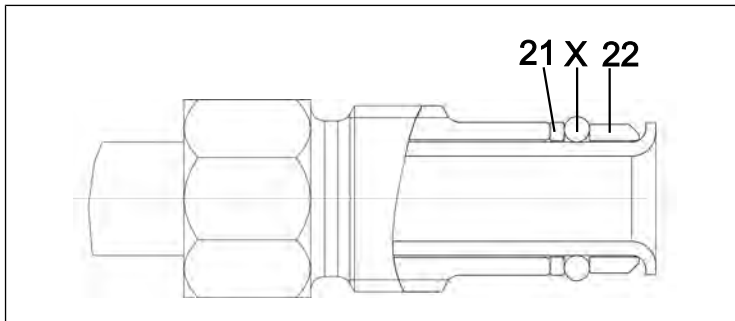

Fig. 31: Correct position of O-ring
2. Change the O-rings (16) and (17) on the separator hose connection (11).
3. Change the O-ring (15) on the high-performance condenser hose connection (12).
**i** When changing the O-rings, make sure that the new O-rings are positioned correctly (between sleeve (22) and sliding washer (21; see Fig. 31).